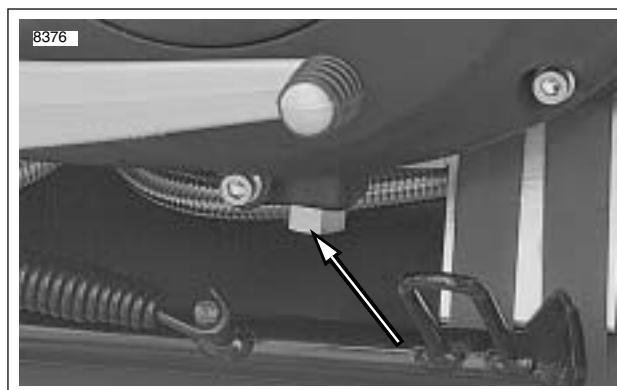

Figure 1-20. Primary Drain Plug
2. See Figure 1-20. Position a suitable container under drain plug. Remove plug and drain fluid.